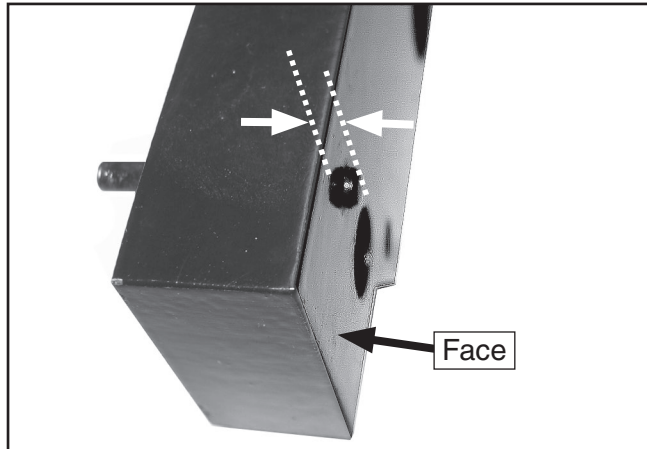

Figure 8. Pin protrusion.
12. On both tapered pins, measure and record the amount of pin protrusion from the face of the end plate (**Figure 8**).